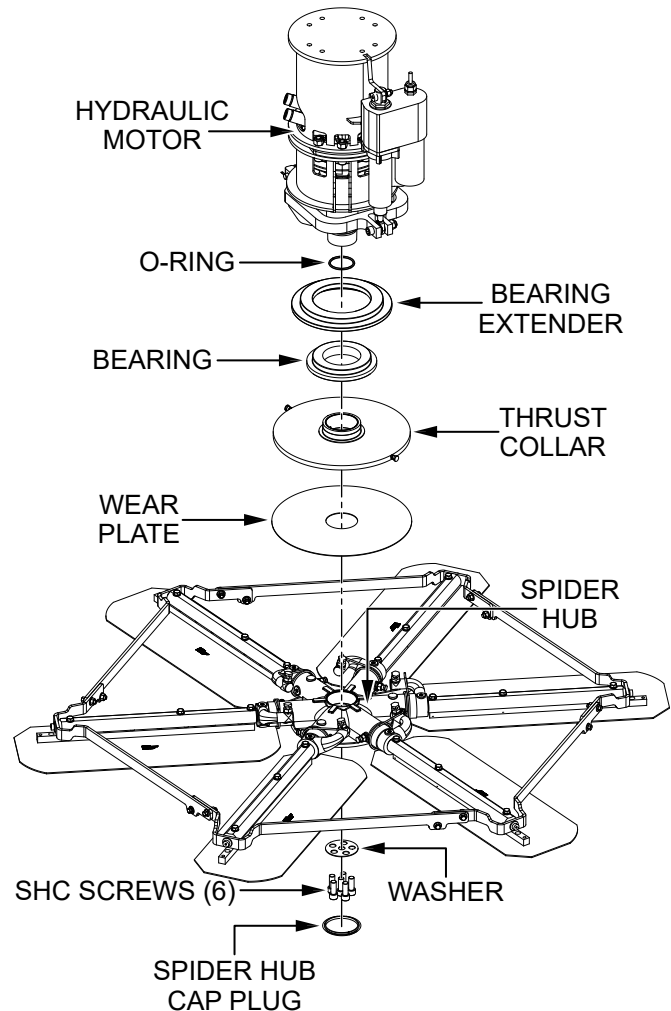

Figure 48. Rotor Assembly Components
5. Remove the **spider hub cap plug** (Figure 48) and set it aside.
6. Remove and set aside the **six socket-head screws** securing the **spider hub** to the **hydraulic motor shaft** (Figure 48).